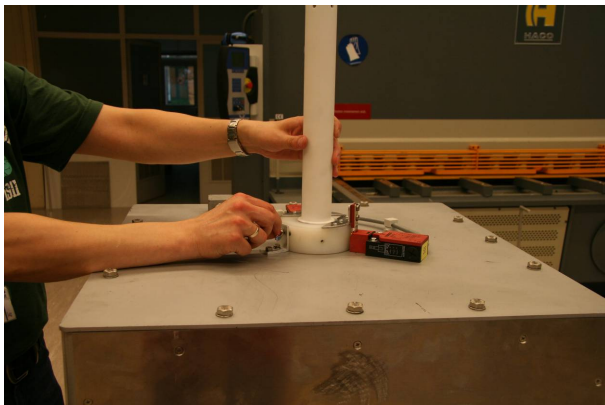
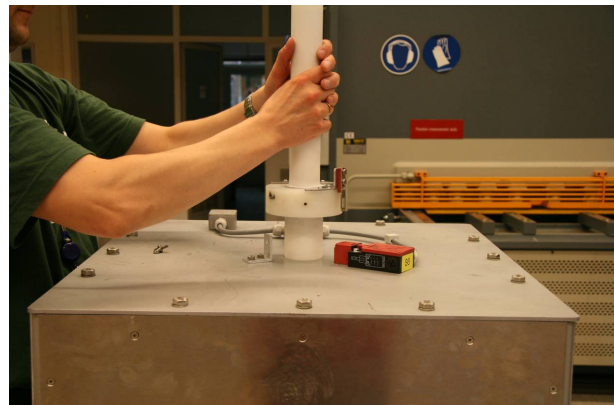

Figure 28: Remove wing screw.
Figure 29: Pull guiding tube vertically out.
- Remove the guiding tube by first removing the wing screw and then vertically pulling the tube out of the shield (Figure 28 and Figure 29).